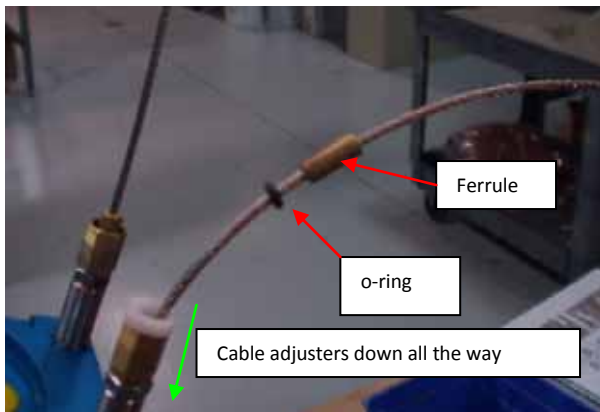

Figure 55 - Ferrule Installation Front and Rear Spring Cable
20. Be sure both front and rear upper cable adjusters are adjusted all the way down. Install a #9005132 o-ring on both front and back spring cables, followed by #9005133 ferrules as shown in Figure 55.